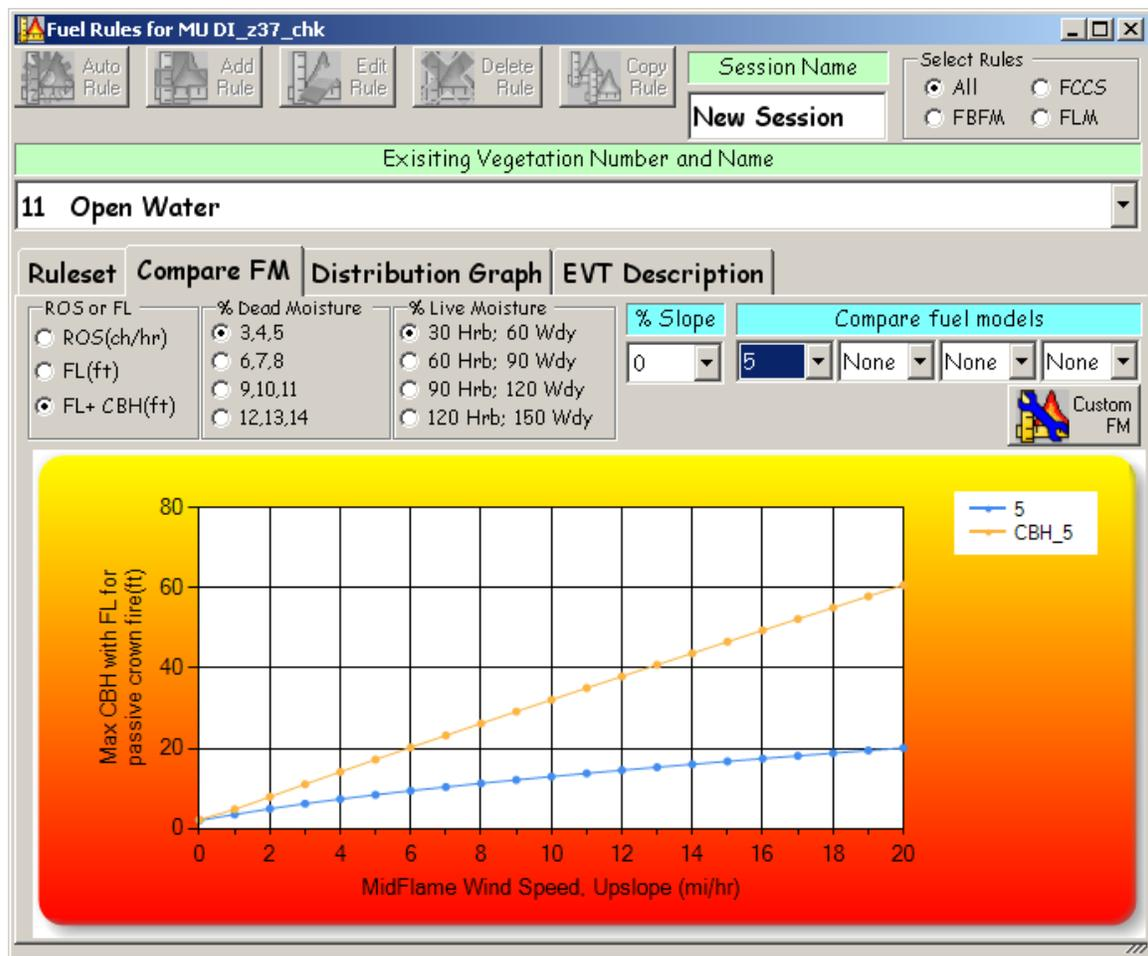

Figure 6-16. Select **Compare FM** page tab.
- Select the **Compare FM** tab on the **Fuel Rules** screen to compare the required canopy base heights (CBH) needed for torching and crowning fire initiation (fig. 6-16). (For additional information refer to section 7.6.5.)